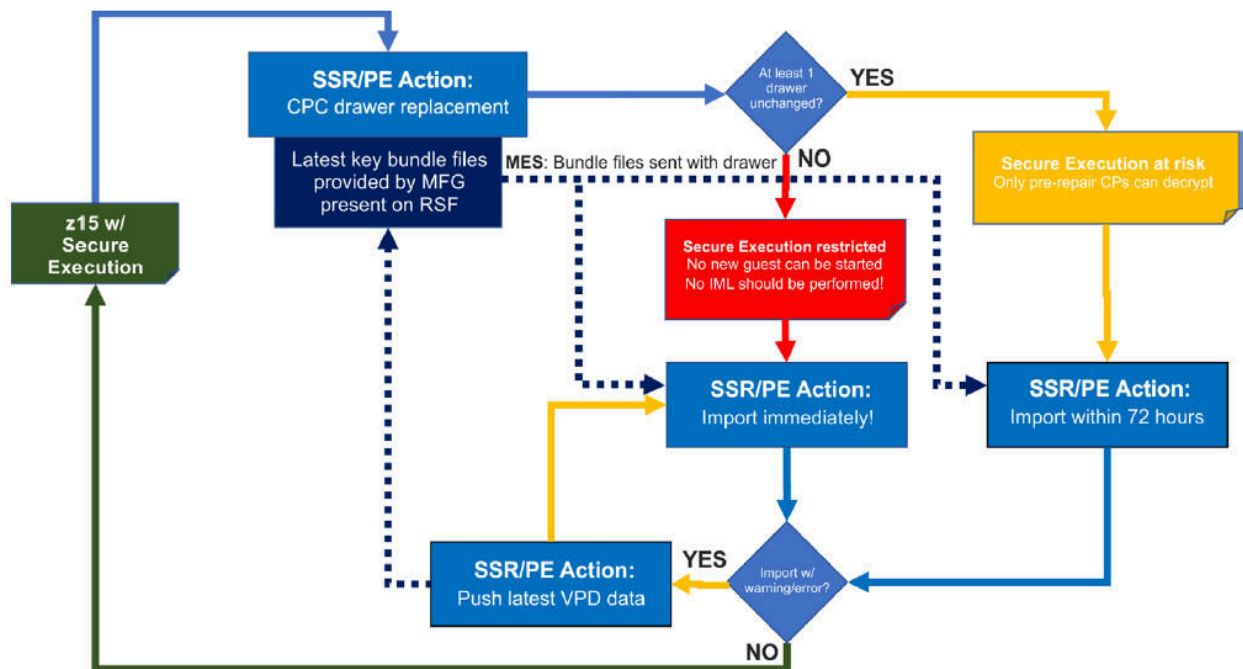

Figure 8. Service scenario flowchart - CPC drawer replacement
- CPC drawer replacement (see Figure 8 on page 184 for flowchart representation)